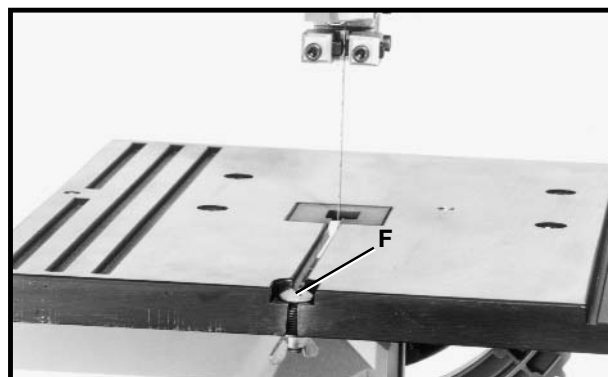

Fig. 36
4. Remove table alignment screw (F) Fig. 36.